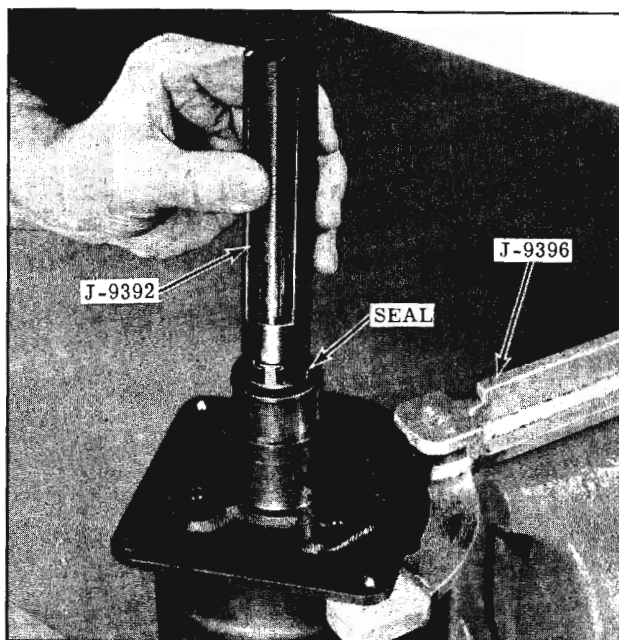

Fig. 15-61 Removing Seal
- 6. Insert Tool J-9392 on top of seal. Rotate clockwise and force tool downward until tool engages tangs of seal. Remove seal by lifting tool out of housing. (Fig. 15-61)